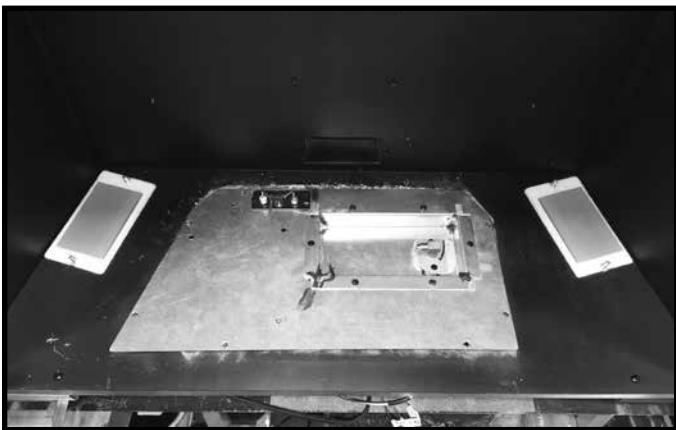

Figure 9
5. Center accent glass on each gasket. See Figure 9.
6. Place one light glass hold down over each piece of accent glass with the ember rock lip towards the front of the appliance. See Figure 9.